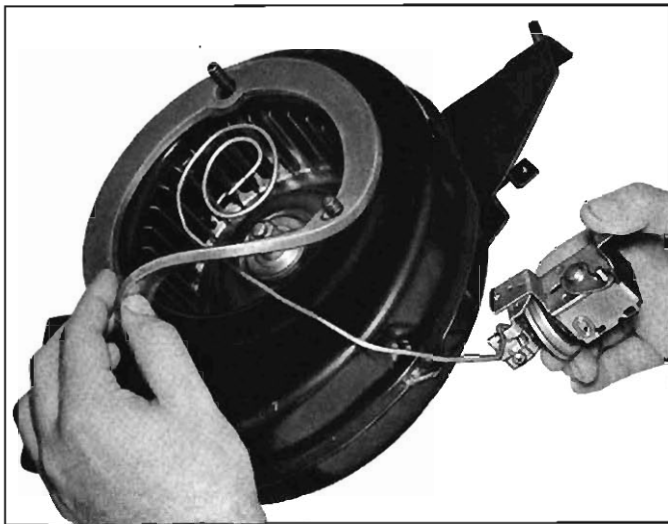

Fig. 11-27—Thermostatic Switch Removal
NOTE: If the blower housing was disassembled from the evaporator case, position the thermostatic switch capillary tube (fig. 11-27) and reassemble the blower to the evaporator case, before installing the evaporator core assembly into the evaporator case.
4. If the thermostatic switch is to be removed, remove nuts from the two lower studs attaching the blower housing to the evaporator case. Pull lightly on the lower portion of the blower housing to achieve a slight opening between the blower housing and evaporator case, thereby permitting withdrawal of the thermostatic switch capillary tube. See fig. 11-27.